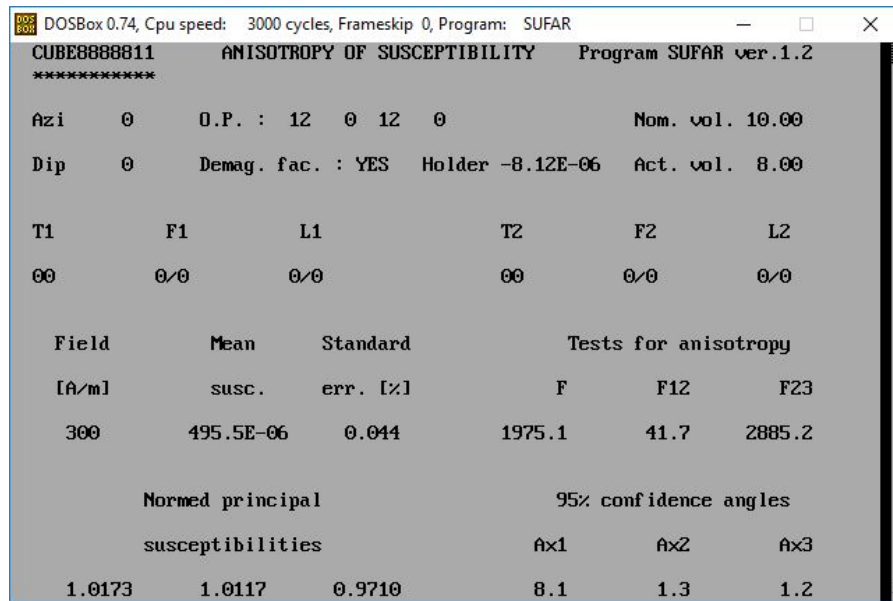

Figure 16 Sufar data evaluation window
13. The specimen data will now be displayed on the screen for you to evaluate (Figure 16). To leave this window, press ESC (the escape key).